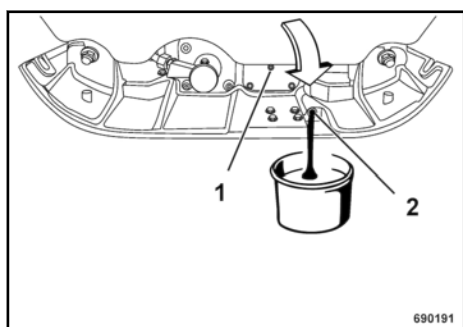

Fig. 60
Unscrew the bleeding screw (1) ↪ Fig. 60.